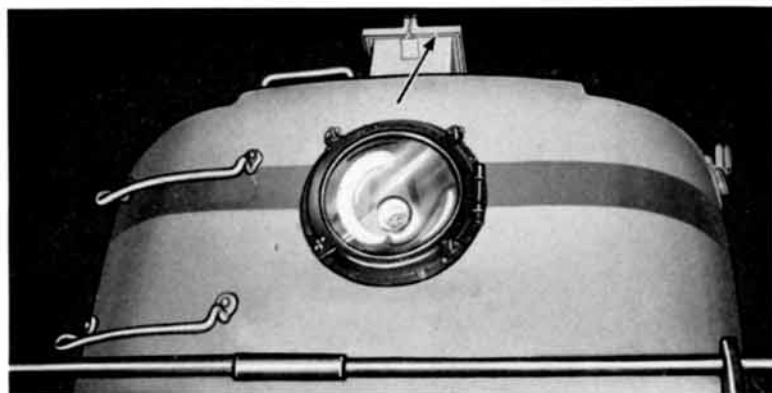

Fig. 24
7. See that the sand tanks have an ample supply of sand. See Fig. 24.